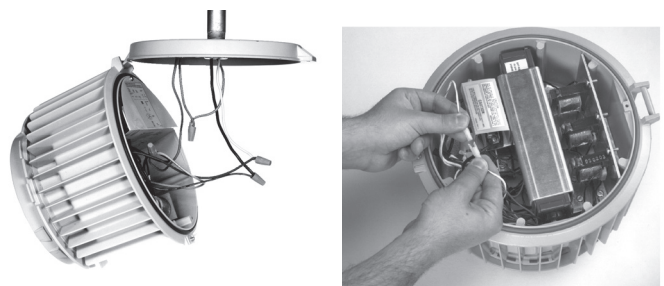

FIGURE 2
3. Hang ballast housing on the cover module hinge hook. See Figure 2.
5. On DMVFB Series Auxiliary Luminaires, connect the auxiliary ballast connector (white/red wires). See Figure 2. This is disconnected to avoid discharging the battery during shipment.